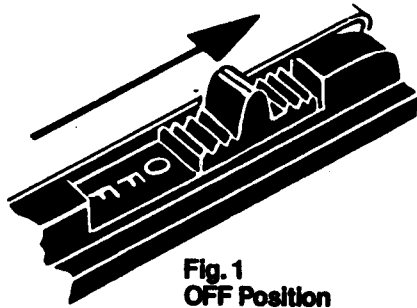
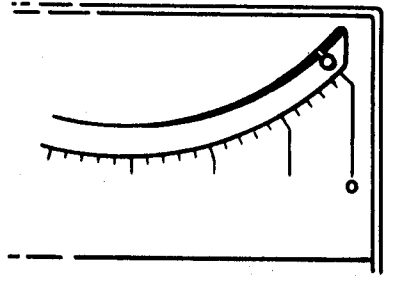

Fig. 1
Fig. 2
With chart drive switch in "OFF" position (see fig. 1) exposing the word "OFF," check mechanical zero setting of pointer (see fig. 2) before making any electrical connections to the instrument. If adjustments are necessary proceed as follows:
- c) Apply finger to star wheel and turn until pointer lines up with zero mark at the extreme right of scale. See fig. 2.
1. Move chart drive switch to "OFF" position exposing the word "OFF." See fig. 1.
5. To unload chart paper from recorder turn chart drive switch off, exposing the word "OFF". See fig. 1. Follow 4 above. Remove chart from feed shaft **A** and pull paper thru recorder.
1. Chart drive switch must be in "OFF" position (exposing the word "OFF"). See fig. 1.